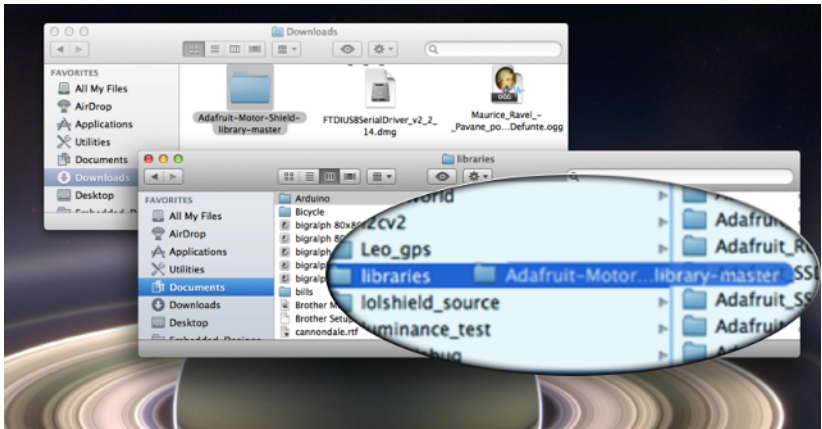

Figure 4-11. Drag your library into the Arduino Libraries folder
2. Open your sketchbook *Libraries* folder and drag the main folder from *Downloads* into it (Figure 4-11). If the *Libraries* folder does not exist, create it.